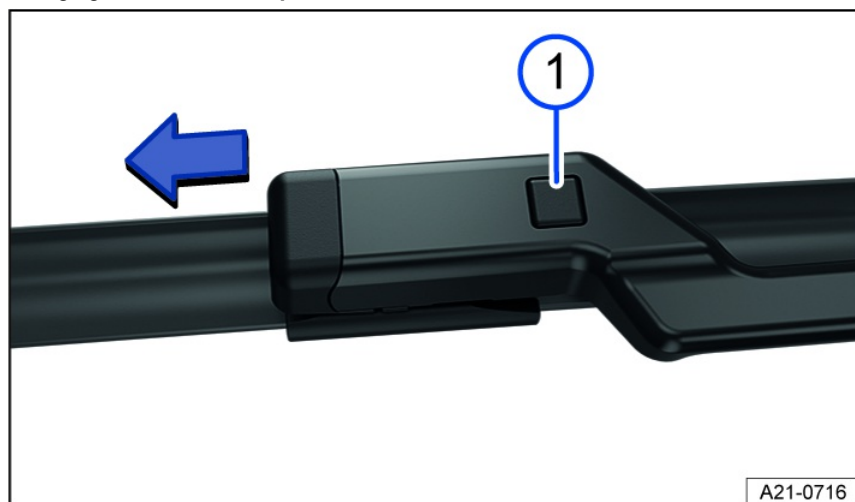

Fig. 183 Changing the windshield wiper blades.
① Wiper blade release button.
3. Press and hold the release button and remove the wiper blade at the same time in the direction of the arrow *fig. 183* ①.